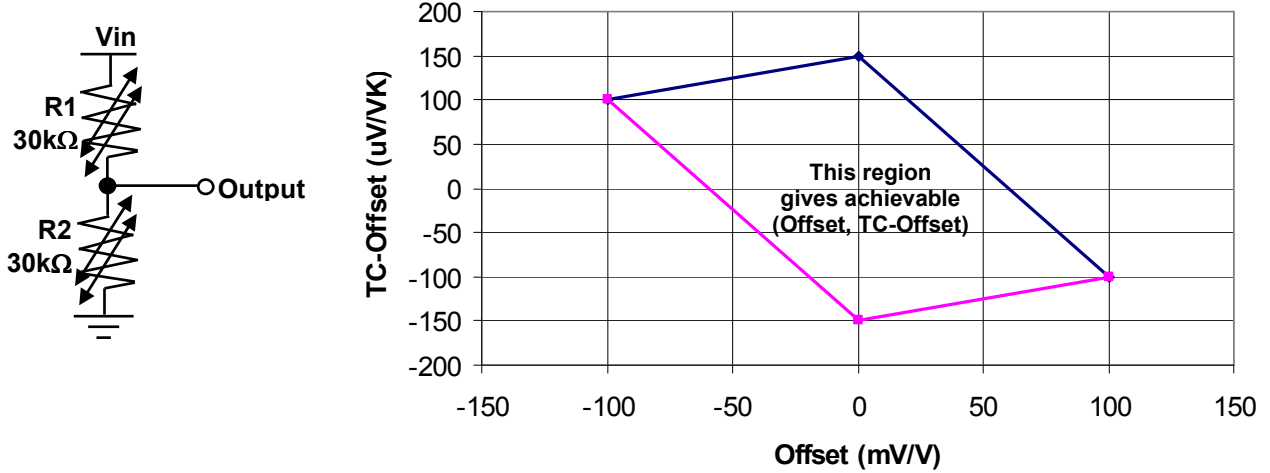

Figure 4: Divider: Region of achievable values (Offset and TC-Offset) from Nominal
Independent adjustment of resistance and TCR for each resistor in the divider is accomplished by heating and cooling the resistive poly-silicon element in a closed-loop system under control of **Rejistor** Calibration tools and Rejust-it software. The output voltage adjustment range for the divider is $\pm 100\text{mV/V}$, with a temperature coefficient of output adjustment range of $\pm 150\text{ppm/K}$ (refer to Figure 4).
- Each Resistor's Temperature Coefficient is independently adjustable such that the TC of the divider output is adjustable between $+150\mu\text{V/V/K}$ and $-150\mu\text{V/V/K}$ (refer to Figure 4))
Microbridge **Rejutors** with **eTC** represent a technology revolution in adjustment and temperature compensation for precision electronic systems. Each **Rejutor** within the divider allows independent, precision adjustment of resistance and temperature response. The **eTC Rejutor** Divider responds as described in the 2-dimensional diagram in Figure 4 when configured as a voltage divider.